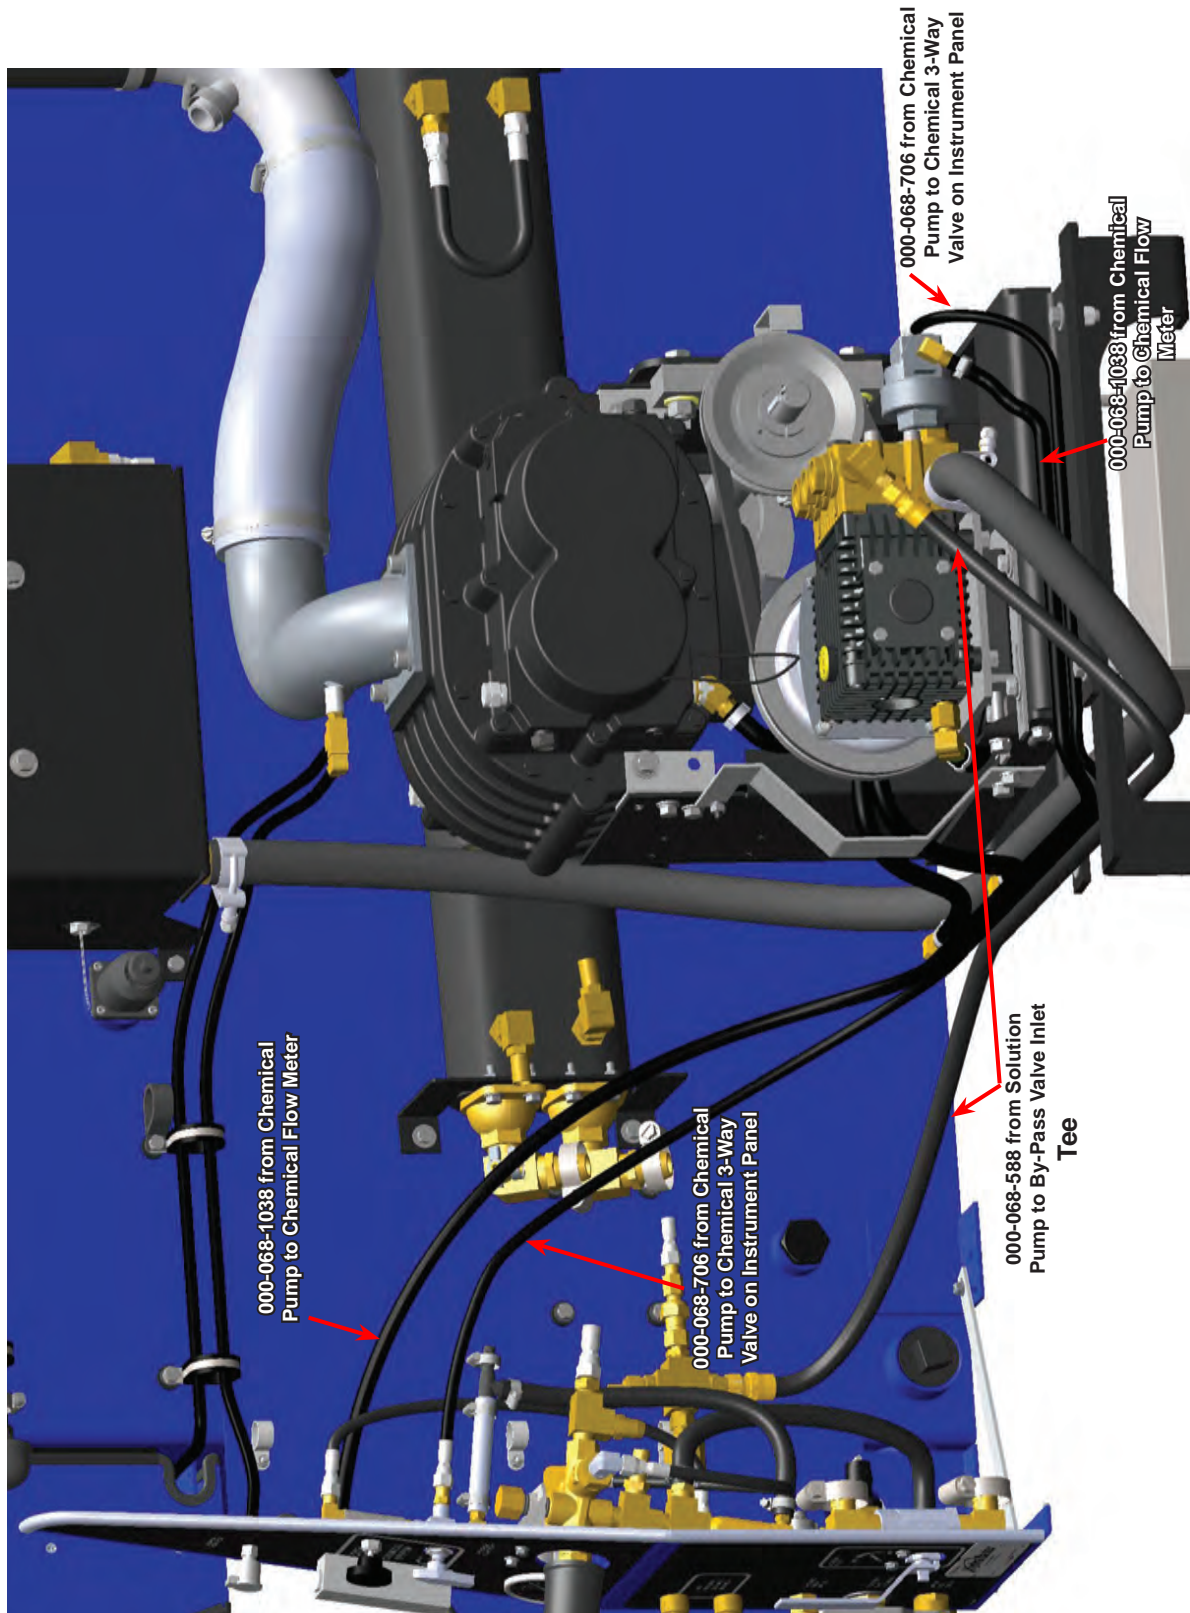
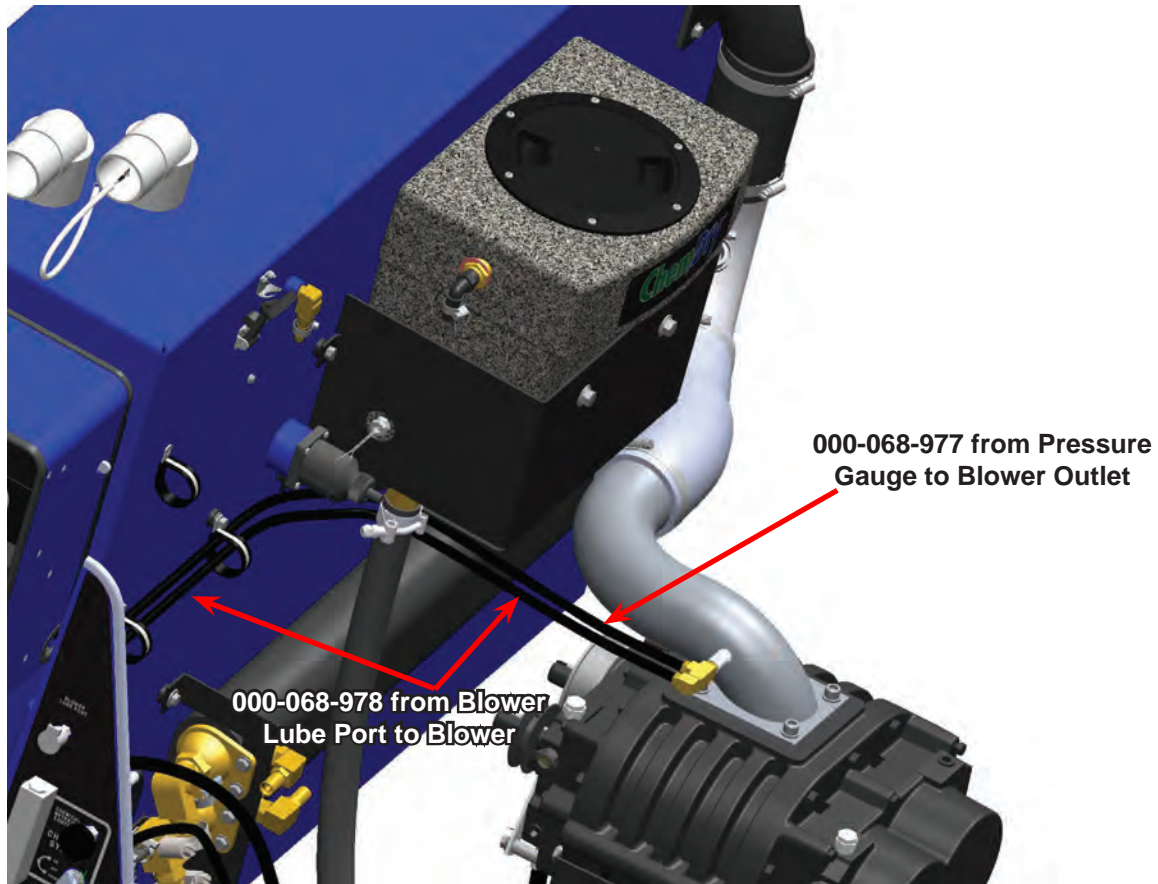

Figure 55. Power Pack Hose Routings
Figure 56. Connect Factory Installed Hoses to Tees on Power Pack
6. Route and connect hoses to/from the Power Pack as shown in Figure 55 and Figure 56.
The vacuum line hoses, P/N 000-068-978 and P/N 000-068-977, shown in Figure 56, are installed on the Recovery Tank at the factory.